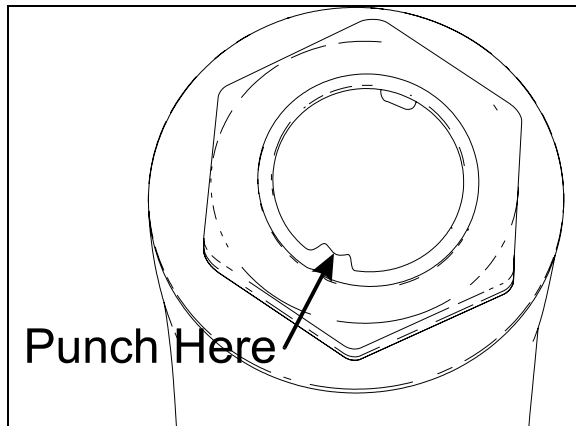

FIGURE 7: FIXING NUT PUNCH MARK
3. Lock nut with sector shaft using a punch mark into the groove (Refer to figure 7).